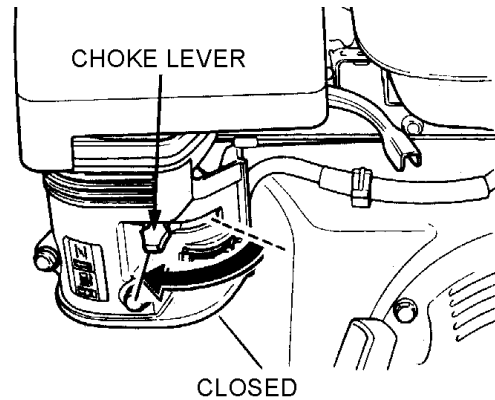

Figure 8. Engine Choke Lever (Closed)
3. Place the choke lever (Figure 8) in the "CLOSED" position if starting a cold engine.